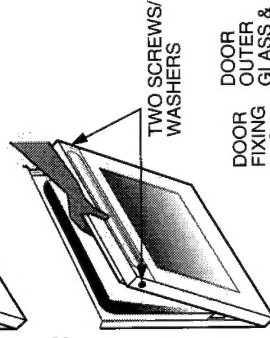

Fig. 3
4. Pull handle/outer glass assembly at the top outwards while still holding the inner door panel and unhook handle/outer glass assembly at the bottom by lifting handle/outer glass assembly upwards as shown in Fig. 3. Take care not to dislodge rubber grommets in bottom of door.
7. Refit the handle/outer glass assembly by opening the oven door and hold taking care not to trap fingers, see Fig. 3. Hook the handle/outer glass assembly back into the rubber grommets at the bottom of inner door panel, see Fig. 3.